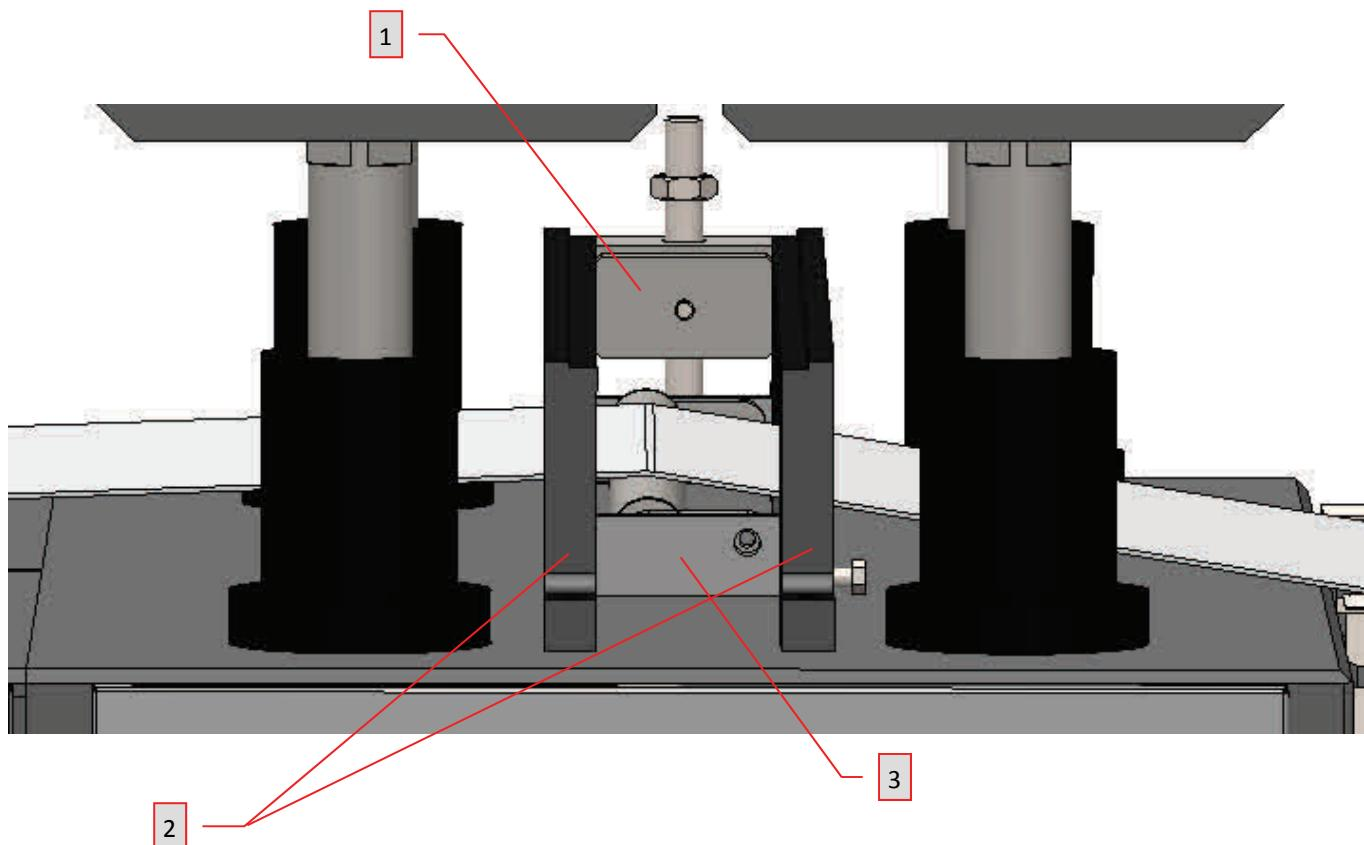

FIGURE 8—Support Bridge with Filler Block and Die Removed
2. **Support Bridge** – The support bridge for the filler block and die is shown in more detail in Figure 8 below.